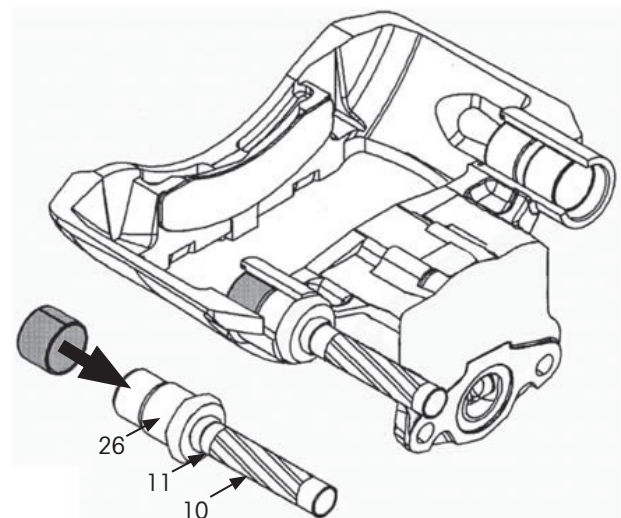

Figure 57: Inserting short guide bushing
2. Assemble and use 10, 11 and 26 to press a new bushing for the short guide pin into the bore of the brake caliper until the tool stops (Figure 57).